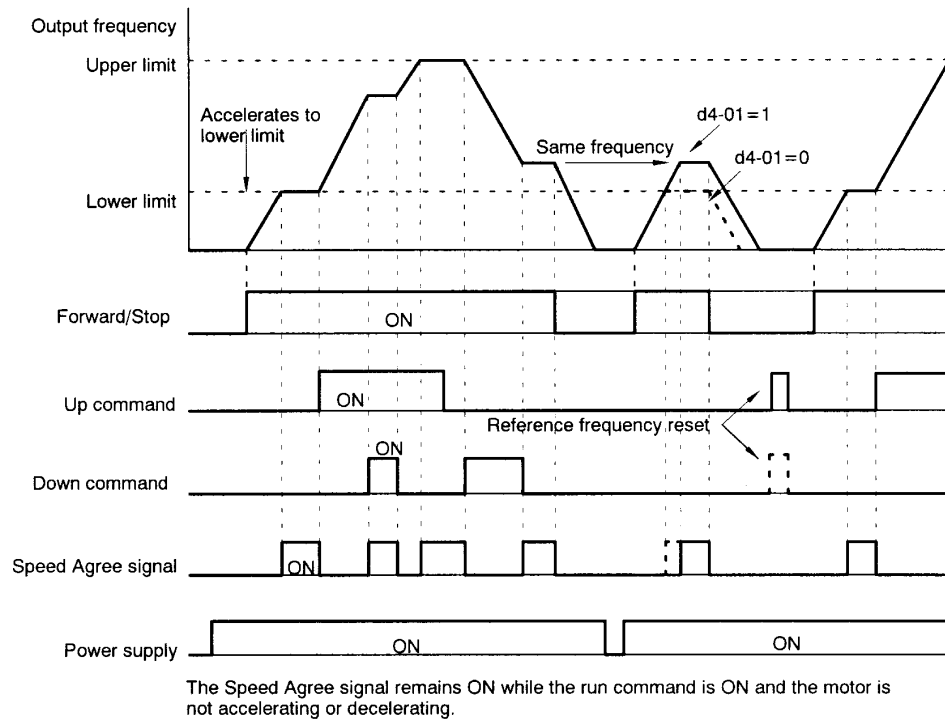

Figure 7.32 Timing Chart for Up and Down Commands
- The output frequency held the up/down function will be stored in memory if d4-01 (the frequency reference hold function selector) is set to 1. This output frequency will be retained even after the power loss, and operation will be restarted at this frequency the next time that a run command is input. The stored output frequency will be cleared from memory if the up or down command is turned ON while the run command is OFF (see “Reference Frequency Reset” in *Figure 7.32*).